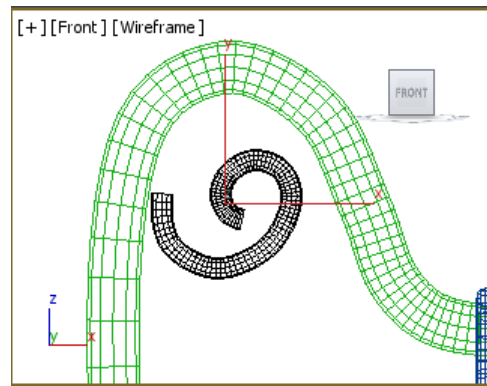

Figure 5-37 The curve created
3. In the **Creation Method** rollout, make sure the **Smooth** radio buttons are selected in the **Initial Type** and **Drag Type** areas. Next, create a curve, as shown in Figure 5-37. Right-click to exit the **Line** tool.